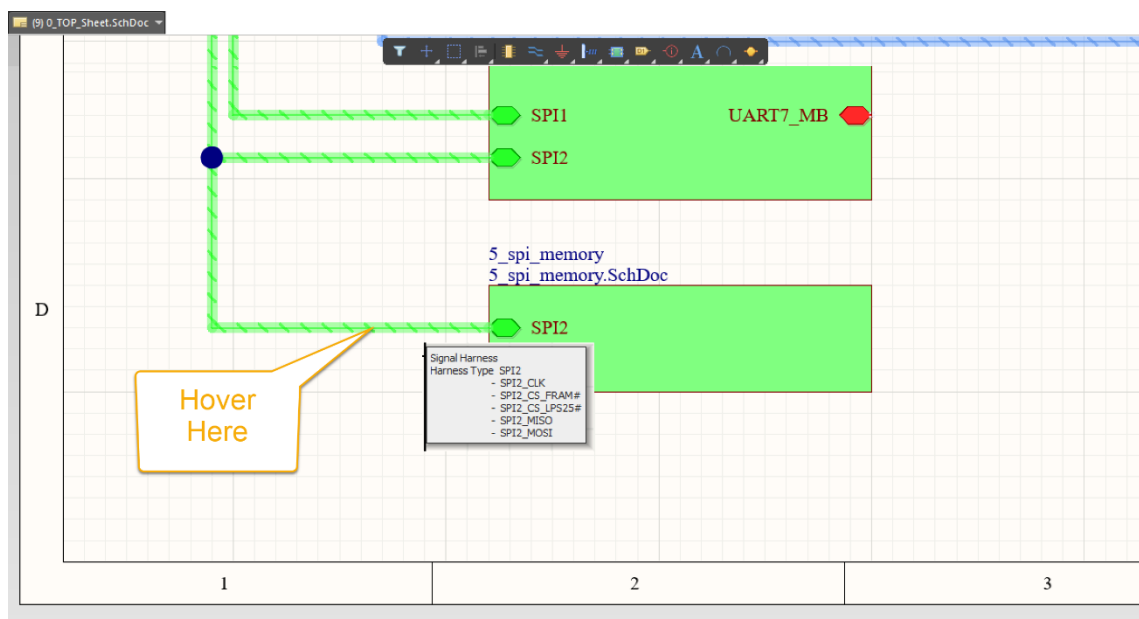

Figure 2. Signal Details inside of the Signal Harness
- In the schematic, hover over the existing SPI2 harness connection to see the individual signals that are included in the harness. You will see the SPI2 nets as shown in Figure 2.